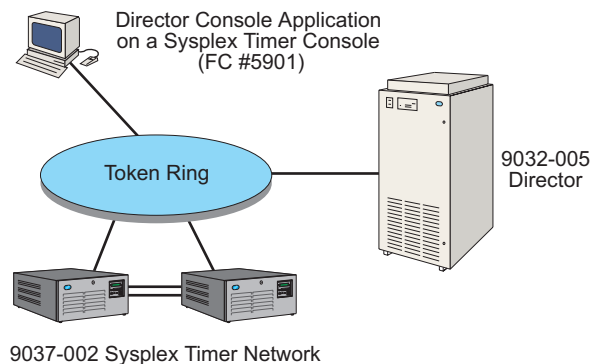

Figure 11. Director Console Application on a Sysplex Timer Console
2. The IBM PC Console used with a 9037-002 Sysplex Timer network (Figure 11). Refer to "Hardware Requirements" on page 22 for minimum specifications.